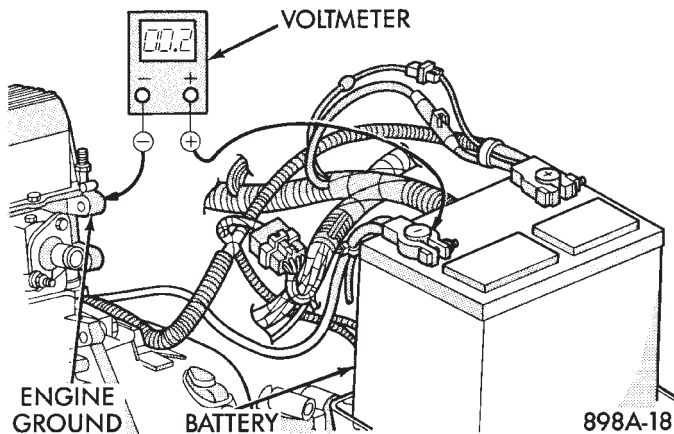

Fig. 5 Test Ground Circuit Resistance
(4) Connect voltmeter to measure between the battery negative post and a good clean ground on the engine block (Fig. 5). Rotate and hold ignition switch in the START position. Observe voltmeter. If voltage reads above 0.2 volt, correct poor contact at battery negative cable attaching point. Repeat test. If reading is still above 0.2 volt, replace battery negative cable.